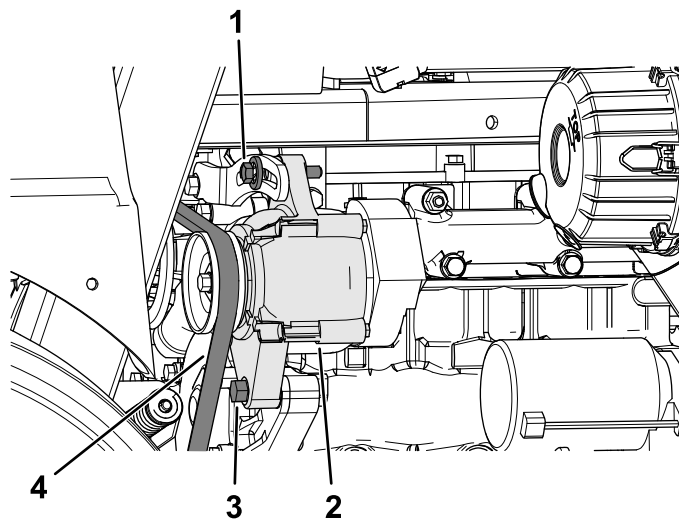

Figure 88
5. Loosen the alternator pivot bolt and lock bolt (Figure 88).
7. Tighten the alternator lock bolt (Figure 88).
8. Tighten the alternator pivot bolt (Figure 88).